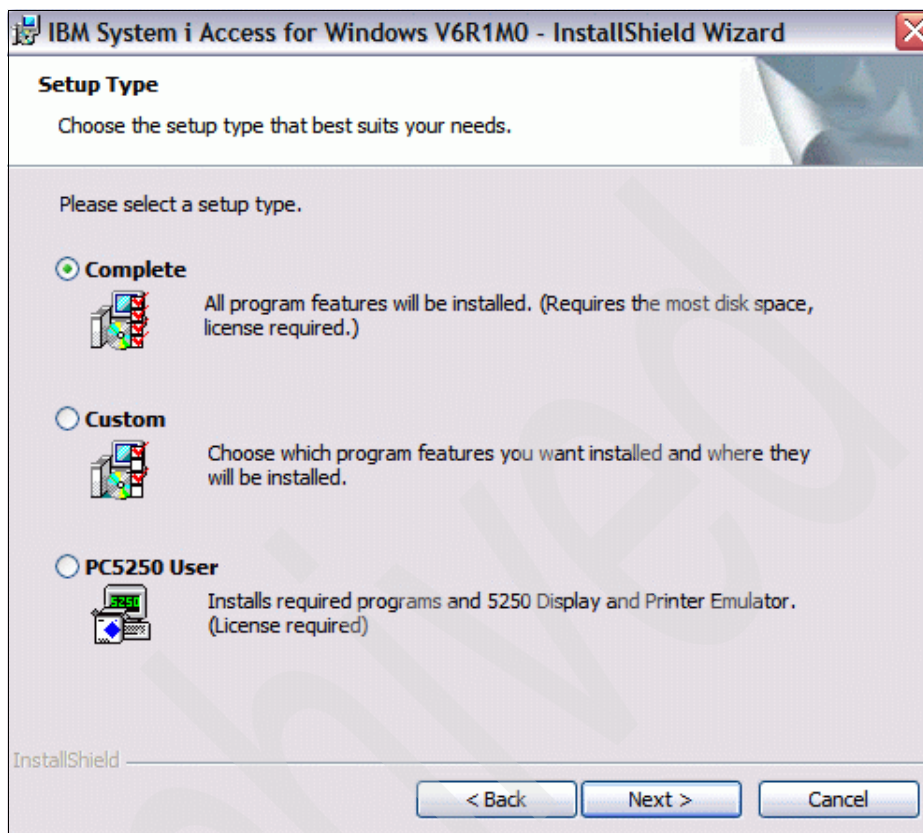

Figure 5-14 IBM System i Access for Windows Setup Type
6. Depending on the complexity of functions, several choices are available as shown in Figure 5-14 on page 231. The normal case is a complete installation. Experienced administrators can select the custom installation to save disk space, or install determined functions only.